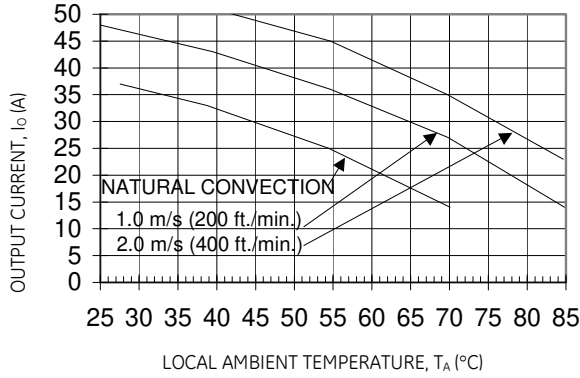

Figure 41. Output Power Derating for QPW050A0F (Vo = 3.3V) in Longitudinal Orientation with no baseplate; Airflow Direction From Vin(-) to Vout(-); Vin = 48V.
Note that the natural convection condition was measured at 0.05 m/s to 0.1 m/s (10ft./min. to 20 ft./min.); however, systems in which these power modules may be used typically generate natural convection airflow rates of 0.3 m/s (60 ft./min.) due to other heat dissipating components in the system. The use of Figures 41 - 50 are shown in the following example:
Determine airflow (V) (Use Figure 41):